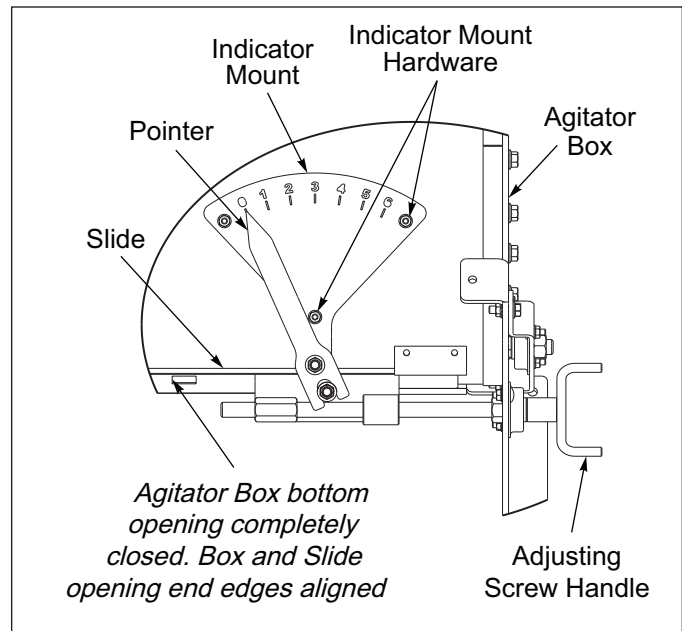

Figure 4-24: Agitator Box Completely Closed.
- Turn the Adjusting Screw Handle until the Slide opening edge is aligned with the Agitator Box bottom opening edge. The Agitator Box opening should be completely closed. **See Figure 4-24.**
- Turn the Adjusting Screw Handle until the Pointer indicates “0”. The Agitator Box bottom opening should be fully closed. **See Figure 4-24.**